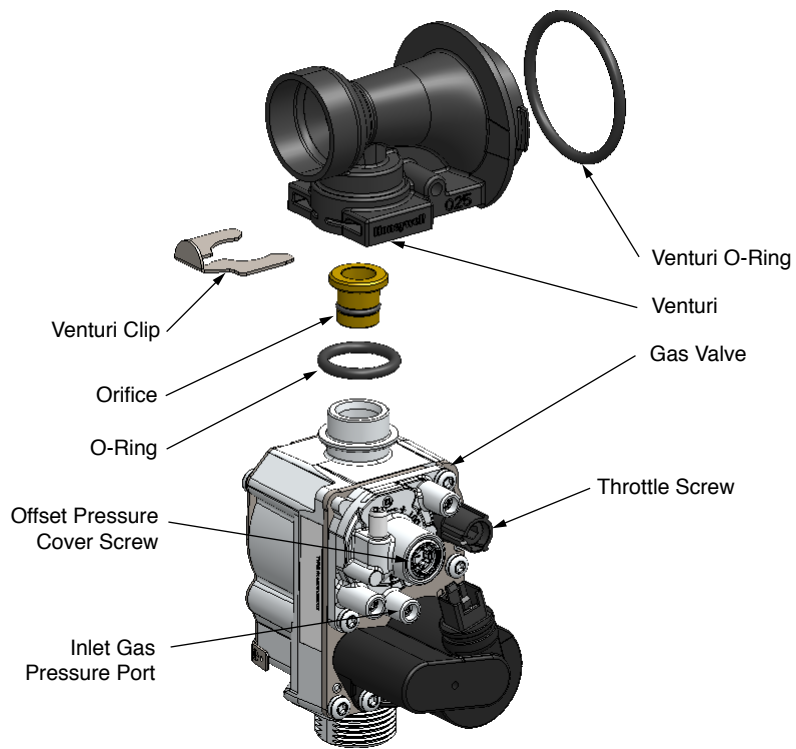
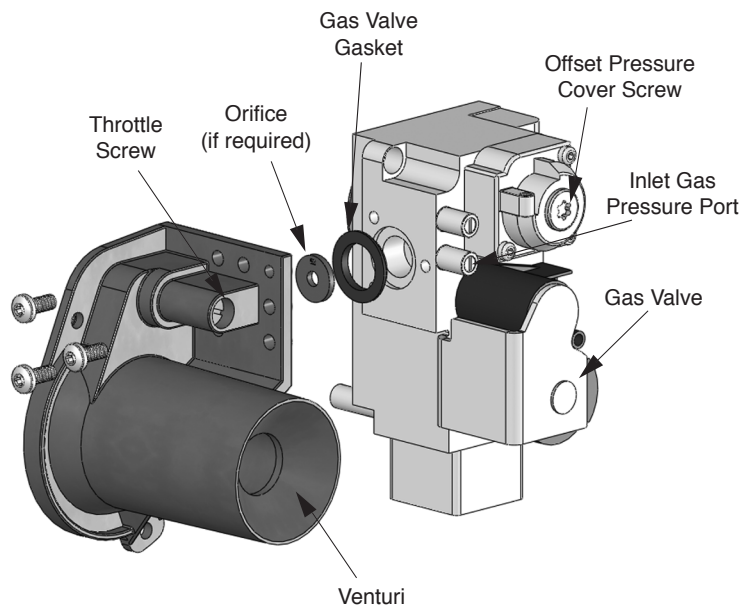
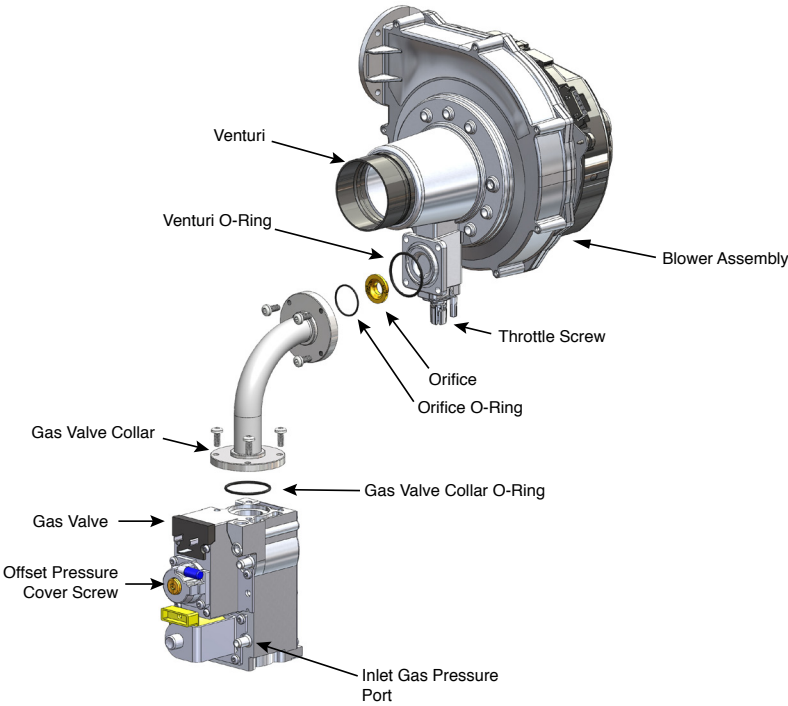

Fig. 16 - Gas Valve / Venturi Assembly - PRESTIGE Solo 80-110
Fig. 17 - Gas Valve / Venturi Assembly - PRESTIGE Solo 155/175/250
Fig. 18 - Gas Valve / Venturi Assembly - PRESTIGE Solo 299/399
- Prior to start up, ensure the unit is set to fire propane. Check the rating label for the type of fuel. Check the gas valve for propane conversion label. If there is a conflict or doubt on the burner set up, remove the gas valve and check for the propane orifice, see Fig. 16 or Fig. 17 on page 28 or Fig. 18 on page 29.